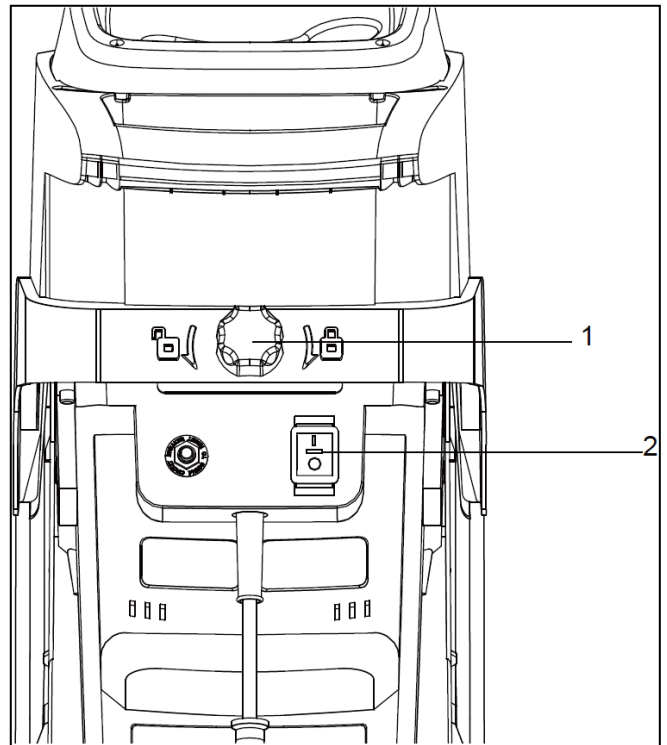
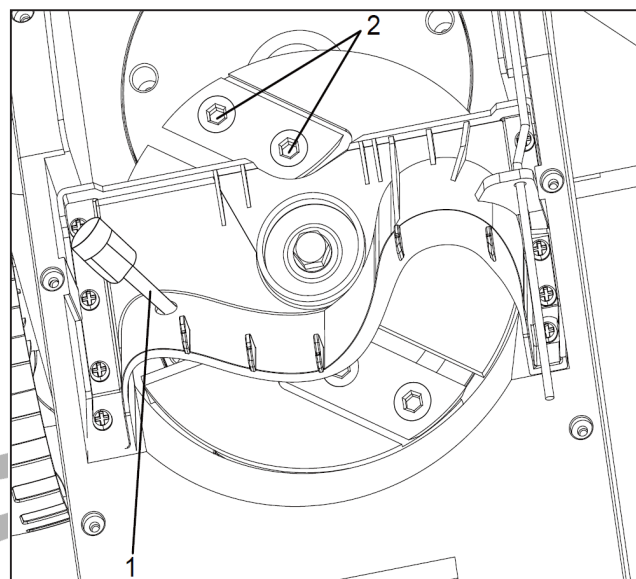

Fig. 4
Fig. 5
2. Check to make sure that the hopper is empty. Close the hopper tightly by turning the hopper lock knob (Fig 4 - 1) clockwise. The shredder will not run if the hopper is open or not fully closed.
4. Connect the shredder to a power source and turn the power switch to the ON position (Fig. 4 - 2).
6. Slowly insert the material to be shredded into the hopper through the feeding chute (Fig. 5). Keep hold of branches at a safe distance from the feeding chute until they are automatically drawn into the shredder.
1. To restart the shredder, first press the reset button (Fig. 4 - 1). Then turn the power switch to the on position.
2. Fully unscrew the hopper locking knob (Fig. 4 - 1) until it springs out. Open the hopper to access the cutting head (Fig. 5).
4. Rotate the cutting head so that it appears as shown in Fig. 5. To prevent the cutting head from rotating during blade change, insert a rod through the blade guard hole (Fig. 5 - 1) and the slot in the cutting head.
6. Each blade is secured with two hex bolts (Fig. 5 - 2). Remove the blade from the inner edge of the blade guard where both hex bolts can be accessed.